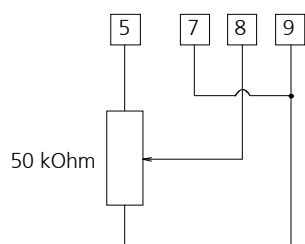

figure 24
2. Connect the potentiometer of 50 k $\Omega$  with the controller (see figure 24).